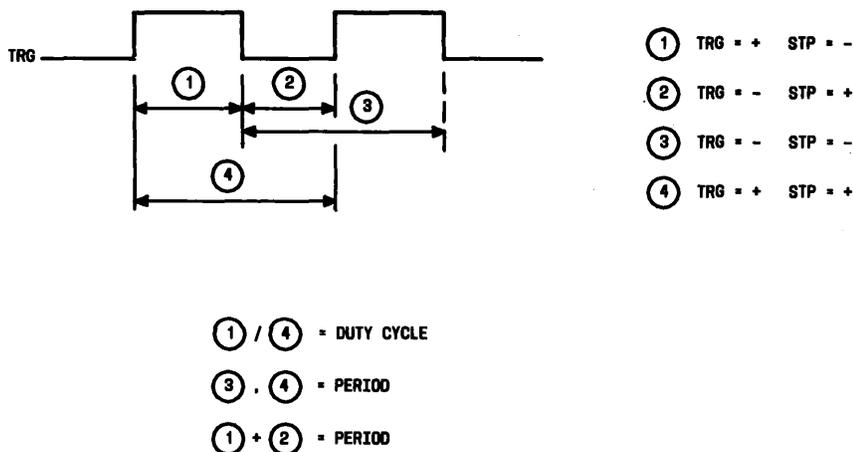

Fig. 15—Example of External Interval Timer
**4.40** In external mode, only the period or pulse width of a single signal can be measured (Fig. 15). The signal must be applied to the CTR/TMR jack input (TRG and COM). For triggering to occur, the signal on the TRG input must swing through the reference level of the COM input. Positive- or negative-going transitions may be selected to control the timing cycle. The sense of transitions that trigger and stop the timer are selected with respect to the TRG input and specified immediately after code 22 is entered. The prompting message : 22 TRG=? STP=? (0=NEG,1=POS) appears. Press GO to start. The result portion of the display remains blank until two transitions occur. The measurement may be repeated by pressing A. The test is terminated by pressing GO.